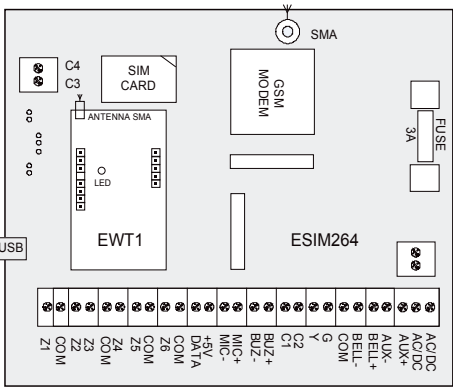

Fig. No. 31
2. Insert EWT1 pins into appropriate ESIM264 slots as indicated in Fig. No. 31.